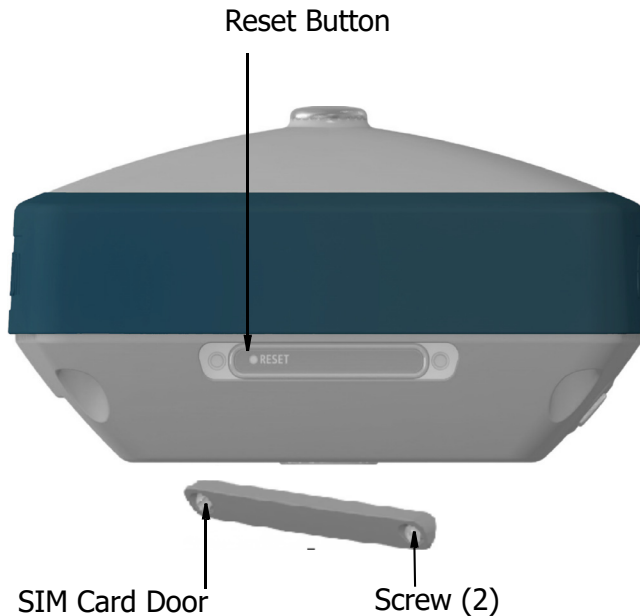

Figure 2-4: Removing the SIM Card Door
1. Remove the **SIM Card Door** using a flat blade driver to remove the two **Screws** (Figure 2-4).